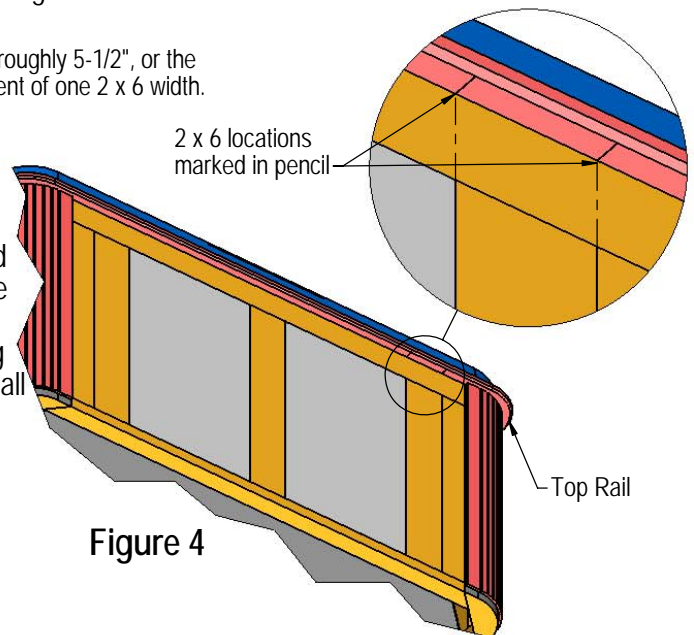

Figure 4
Step 4 - Using a pencil, mark the location of the newly installed 2 x 6's on the underside of the Top Rail. This will insure that the two Cover Shelf Mounting Brackets will be centered on the supporting 2 x 6's that will no longer be visible after reinstalling the cabinet panels. Repeat on the second 2 x 6 and then reinstall the two cabinet panels and three vertical trim strips. See Figure 4 at right.